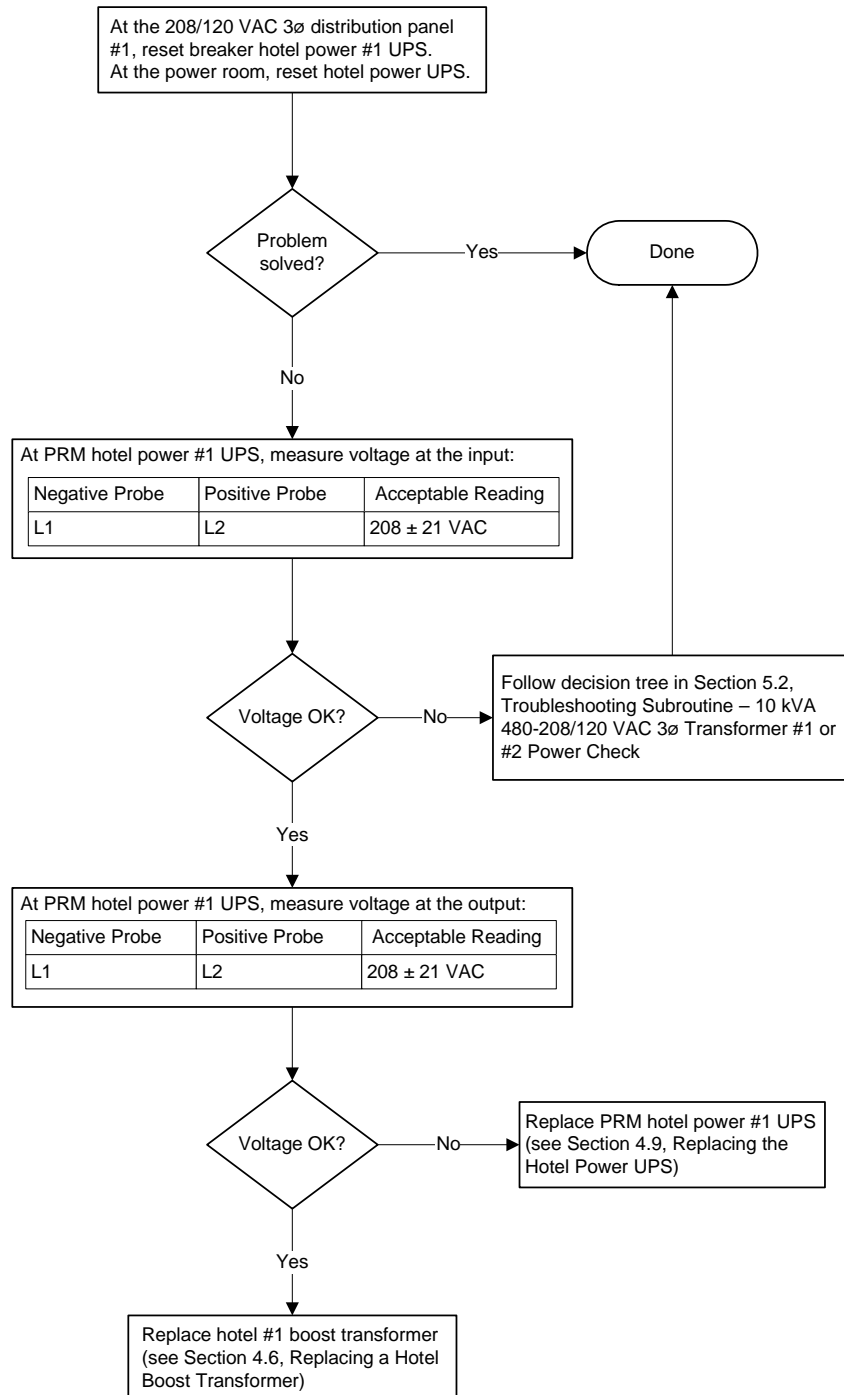

Figure 2 Troubleshooting – PRM Hotel Power #1 Doesn't Work
- Follow the troubleshooting steps in Figure 2.